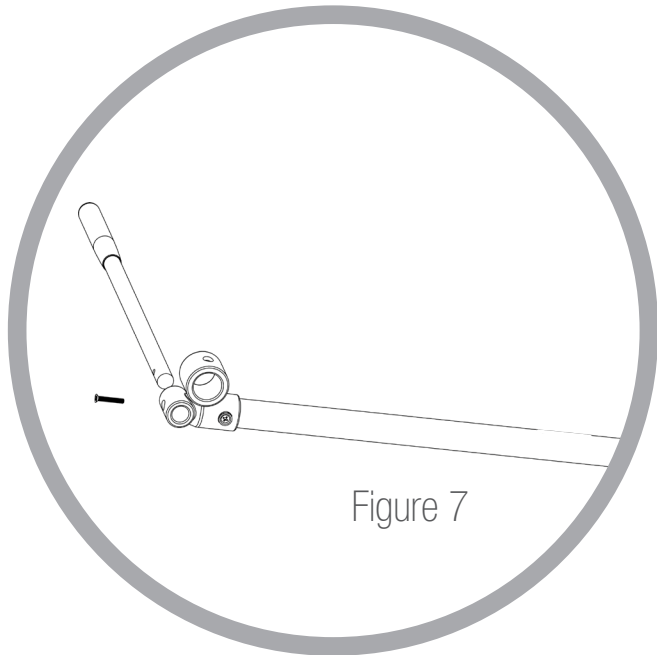

Figure 7
- Insert the Finger (cvEE) into the mounting hole on Plastic Support (cvPS) and fasten it with Set Screw (cvK) as shown in fig. 7.